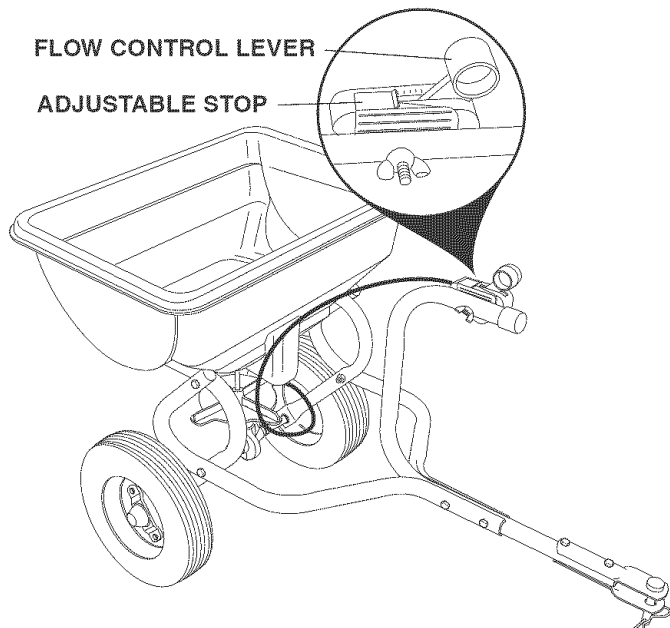

FIGURE 5
- Slide the Adjustable stop to the desired setting and retighten the wing nut. See figure 5.